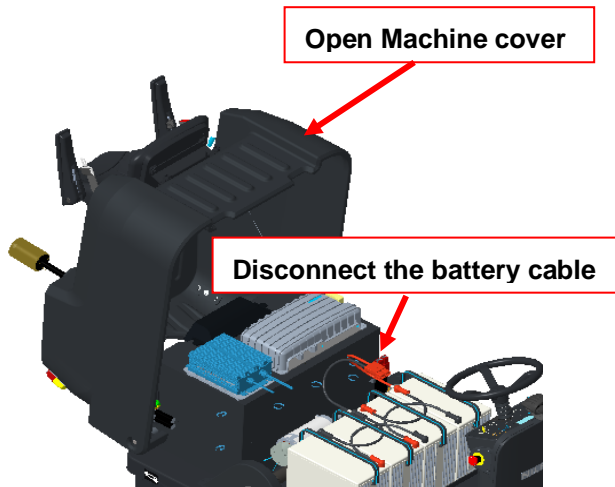

Figure 12
2. Open the machine cover, then disconnect battery power (Figure 12).